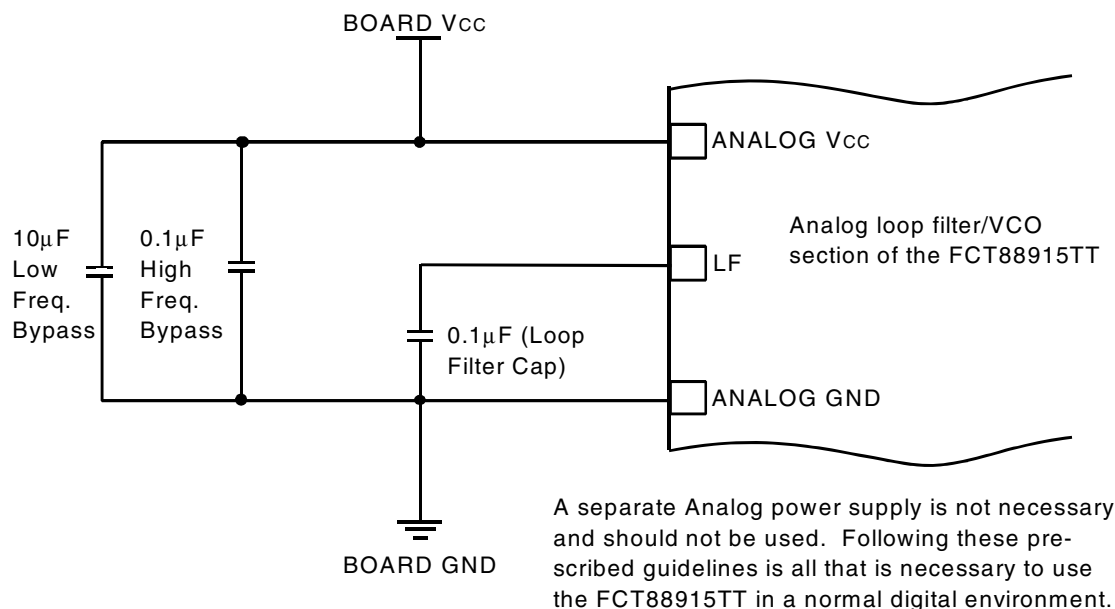

Figure 3. Recommended Loop Filter and Analog Isolation Scheme for the FCT88915TT
- Figure 3 shows a loop filter and analog isolation scheme which will be effective in most applications. The following guidelines should be followed to ensure stable and jitter-free operation:
If good bypass techniques are used on a board design near components which may cause digital VCC and ground noise, VCC step deviations should not occur at the 88915TT's digital VCC supply. The purpose of the bypass filtering scheme shown in Figure 3 is to give the 88915TT additional protection from the power supply and ground plane transients that can occur in a high frequency, high speed digital system.
- In addition to the bypass capacitors used in the analog filter of Figure 3, there should be a 0.1µF bypass capacitor between each of the other (digital) four VCC pins and the board ground plane. This will reduce output switching noise caused by the 88915TT outputs, in addition to reducing potential for noise in the "analog" section of the chip. These bypass capacitors should also be tied as close to the 88915TT package as possible.